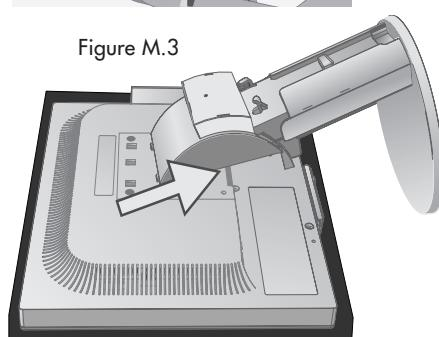

Figure M.3
5. Lift up the stand to unlatch the upper hooks and remove the stand (**Figure M.3**).